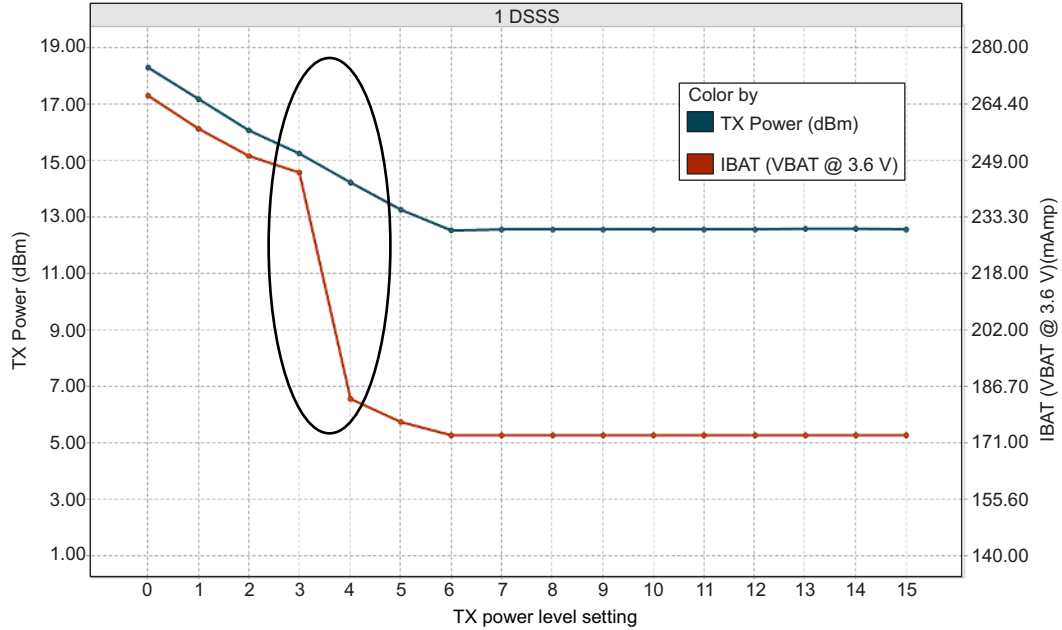
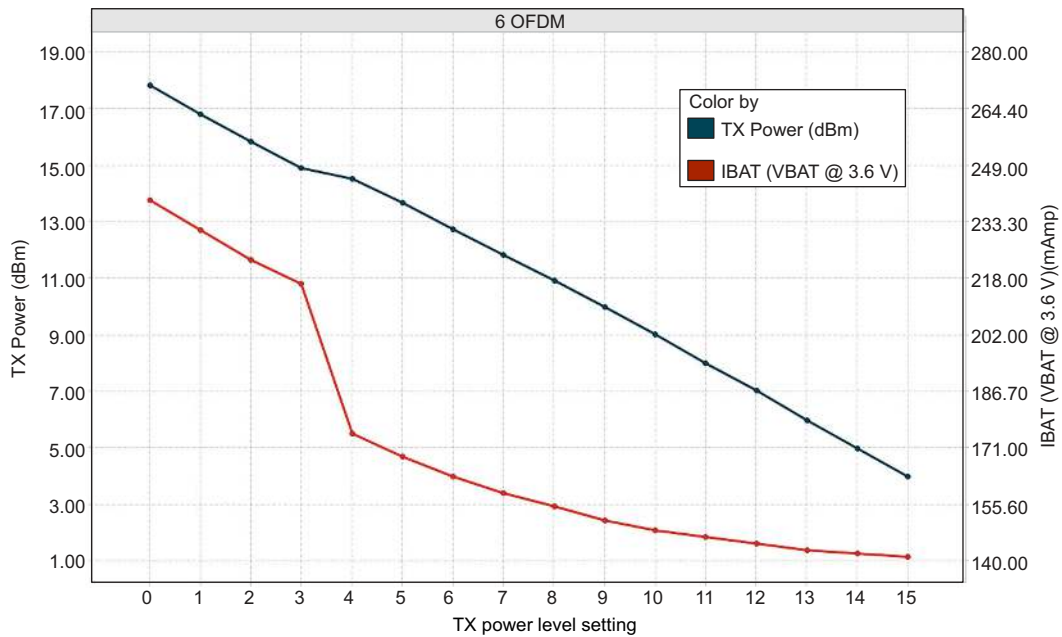
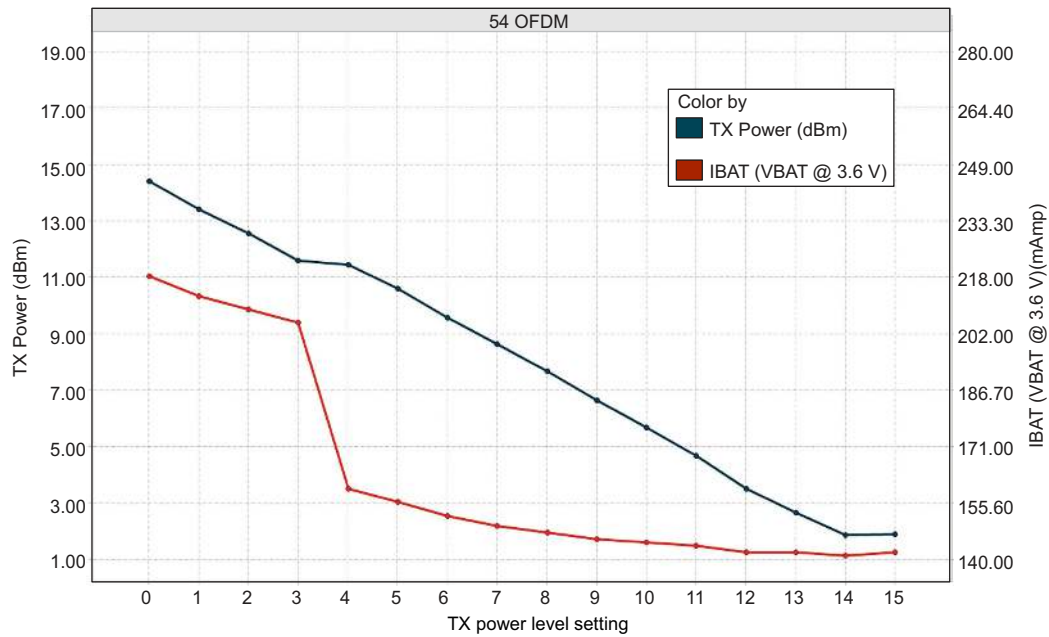

Figure 8-1. TX Power and IBAT vs TX Power Level Settings (1 DSSS)
Figure 8-2. TX Power and IBAT vs TX Power Level Settings (6 OFDM)
Figure 8-3. TX Power and IBAT vs TX Power Level Settings (54 OFDM)
- (1) TX power level = 0 implies maximum power (see Figure 8-1, Figure 8-2, and Figure 8-3). TX power level = 4 implies output power backed off approximately 4 dB.
- (2) The CC3235x system is a constant power-source system. The active current numbers scale based on the V_{BAT} voltage supplied.
- (3) Typical numbers assume a VSWR of 1.5:1.
- (4) DTIM = 1
- (5) LPDS current does not include the external serial flash. The LPDS number of reported is with retention of 256KB of MCU SRAM. The CC3235x device can be configured to retain 0KB, 64KB, 128KB, 192KB, or 256KB of SRAM in LPDS. Each 64-KB block of MCU retained SRAM increases LPDS current by 4 µA.
- (6) The complete calibration can take up to 17 mJ of energy from the battery over a period of 24 ms. Calibration is performed sparingly, typically when coming out of HIBERNATE and only if temperature has changed by more than 20°C. The calibration event can be controlled by a configuration file in the serial flash.
Figure 8-1, Figure 8-2, and Figure 8-3 show TX power and IBAT versus TX power level settings for the CC3235S device at modulations of 1 DSSS, 6 OFDM, and 54 OFDM, respectively. For the CC3235SF device, the IBAT
In Figure 8-1, the area enclosed in the circle represents a significant reduction in current during transition from TX power level 3 to level 4. In the case of lower range requirements (14-dBm output power), TI recommends using TX power level 4 to reduce the current.